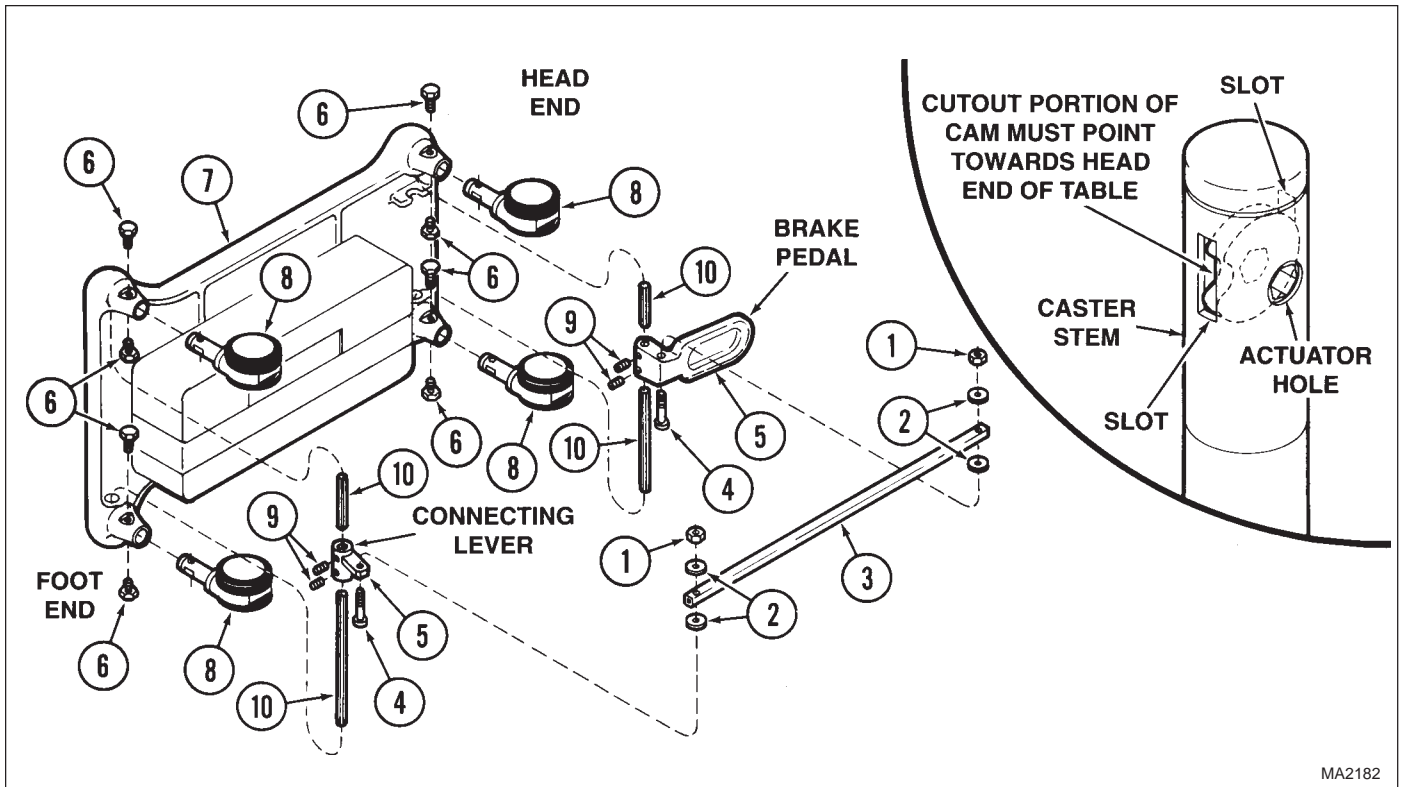

Figure 4-59. Caster Removal / Installation
The illustration, Figure 4-59, shows the caster removal / installation for the head end *and* foot end of the table. If you are removing a caster from the head end of the surgery table, only remove components shown on the head end of the table and if you are removing a caster from the foot end of the surgery table, only remove components shown on the foot end of the table.
- (3) Remove nut (1, Figure 4-59), two fiber washers (2), throw rod (3), and shoulder screw (4) from brake pedal *or* connecting lever (5).
- (4) Remove two screws (6) from base casting (7) which secures caster (8) (Caster being removed.).
- (5) Remove two setscrews (9) from brake pedal *or* connecting lever (5).
- (6) Using a soft faced mallet, drive the brake pedal *or* connecting lever (5) away from caster (8) (Caster being removed), until the brake actuator bar (10) closest to the caster becomes free of the brake pedal *or* connecting lever.
- (7) Slide the brake actuator bar (10) away from the caster (8) (Caster being removed), until the brake actuator bar becomes free and can be removed.
- (8) Remove caster (8) from the base casting (7).